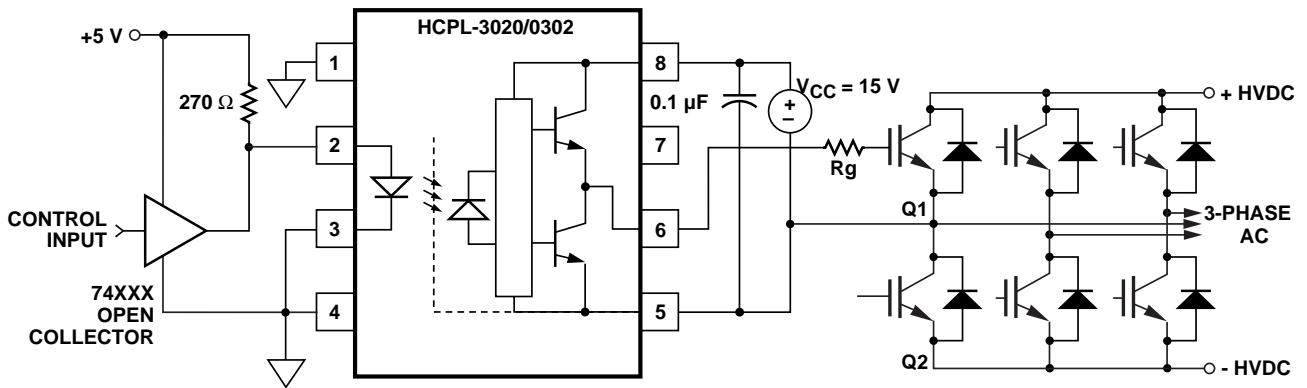
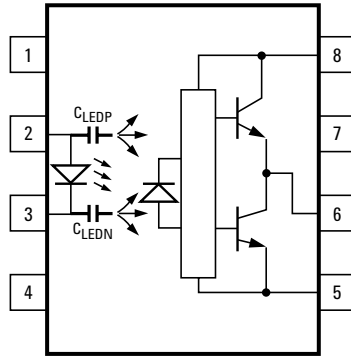
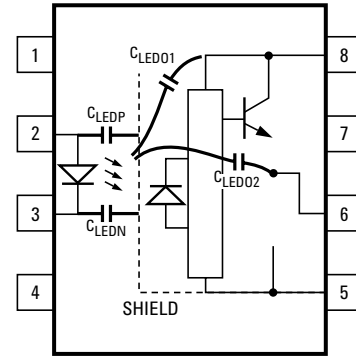
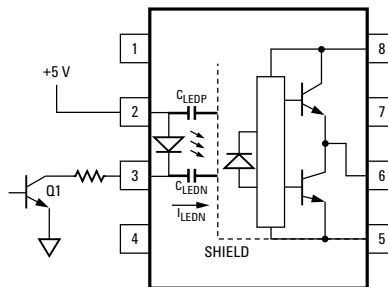

Figure 17. Recommended LED drive and application circuit for HCPL-3020 and HCPL-0302.
Figure 19. Optocoupler input to output capacitance model for unshielded optocouplers.
Figure 20. Optocoupler Input to output capacitance model for shielded optocouplers.
Figure 22. Not recommended open collector drive circuit.
a small PC board directly above the IGBT) can eliminate the need for negative IGBT gate drive in many applications as shown in Figure 17. Care should be taken with such a PC board design to avoid routing the IGBT collector or emitter traces close to the HCPL-3020 or HCPL-0302 input as this can result in unwanted
**Step 1:** Calculate Rg minimum from the IOL peak specification. The IGBT and Rg in Figure 17 can be analyzed as a simple RC circuit with a voltage supplied by the HCPL-3020.
KICC · Qg · f is the increase in ICC due to switching and KICC is a constant of 0.001 mA/(nC·kHz). For the circuit in Figure 17 with IF (worst case) = 10 mA, Rg = 57.5 Ω, Max Duty Cycle = 80%, Qg = 100 nC, f = 20 kHz and TAMAX = 85°C:
Without a detector shield, the dominant cause of optocoupler CMR failure is capacitive coupling from the input side of the optocoupler, through the package, to the detector IC as shown in Figure 19. The HCPL-3020 and HCPL-0302 improve CMR performance by using a detector IC with an optically transparent Faraday shield, which diverts the capacitively coupled current away from the sensitive IC circuitry. However, this shield does not eliminate the capacitive coupling between the LED and optocoupler pins 5-8 as shown in Figure 20. This capacitive coupling causes perturbations in the LED current during common mode transients and becomes the major source of CMR failures for a shielded optocoupler. The main design objective of a high CMR LED drive circuit becomes keeping the LED in the proper state (on or off) during common mode transients. For example, the recommended application circuit (Figure 17), can achieve  $10 \text{ kV}/\mu\text{s}$  CMR while minimizing component complexity.
The open collector drive circuit, shown in Figure 22, cannot keep the LED off during a  $+dV_{CM}/dt$  transient, since all the current flowing through  $C_{LEDN}$  must be supplied by the LED, and it is not recommended for applications requiring ultra high  $CMR_1$  performance. The alternative drive circuit, which like the recommended application circuit (Figure 17), does achieve ultra high CMR performance by shunting the LED in the off state.